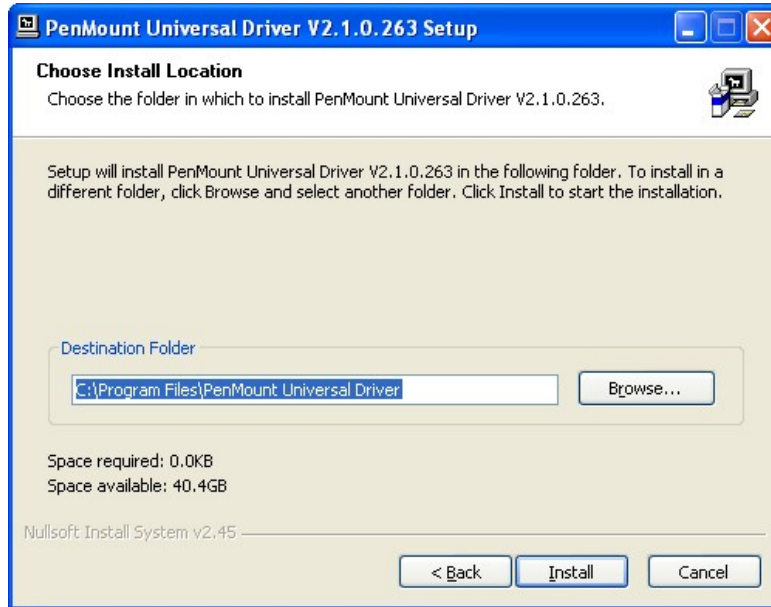

Figure 6-27: Choose Install Location
Step 8: Browse for an install location or use the one suggested then click **INSTALL** to continue (**Figure 6-27**).